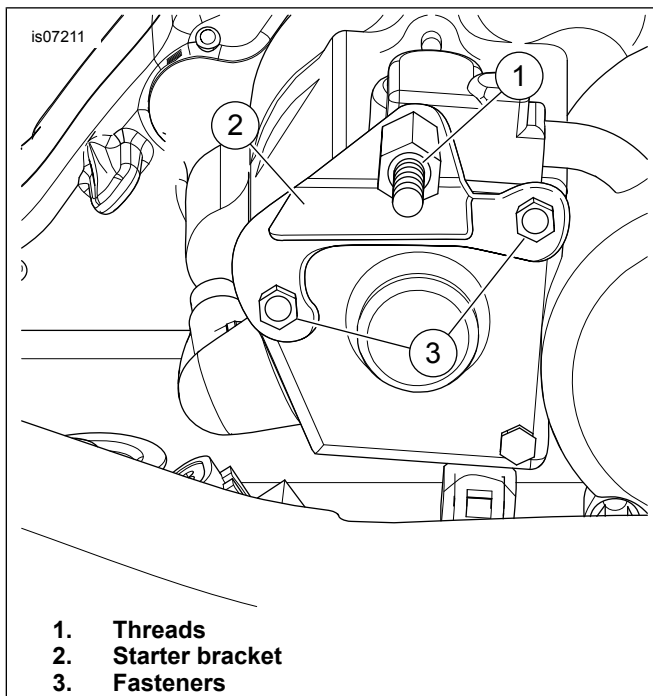

Figure 7. Starter Bracket
9. See Figure 7. Obtain the screw and spacer from the kit. Install the screw (1) through the back side of the included starter bracket (2). Thread the spacer on and tighten securely. This will face out from the bracket.
10. Remove the fasteners (3) from the solenoid cover and install the bracket reusing these fasteners.